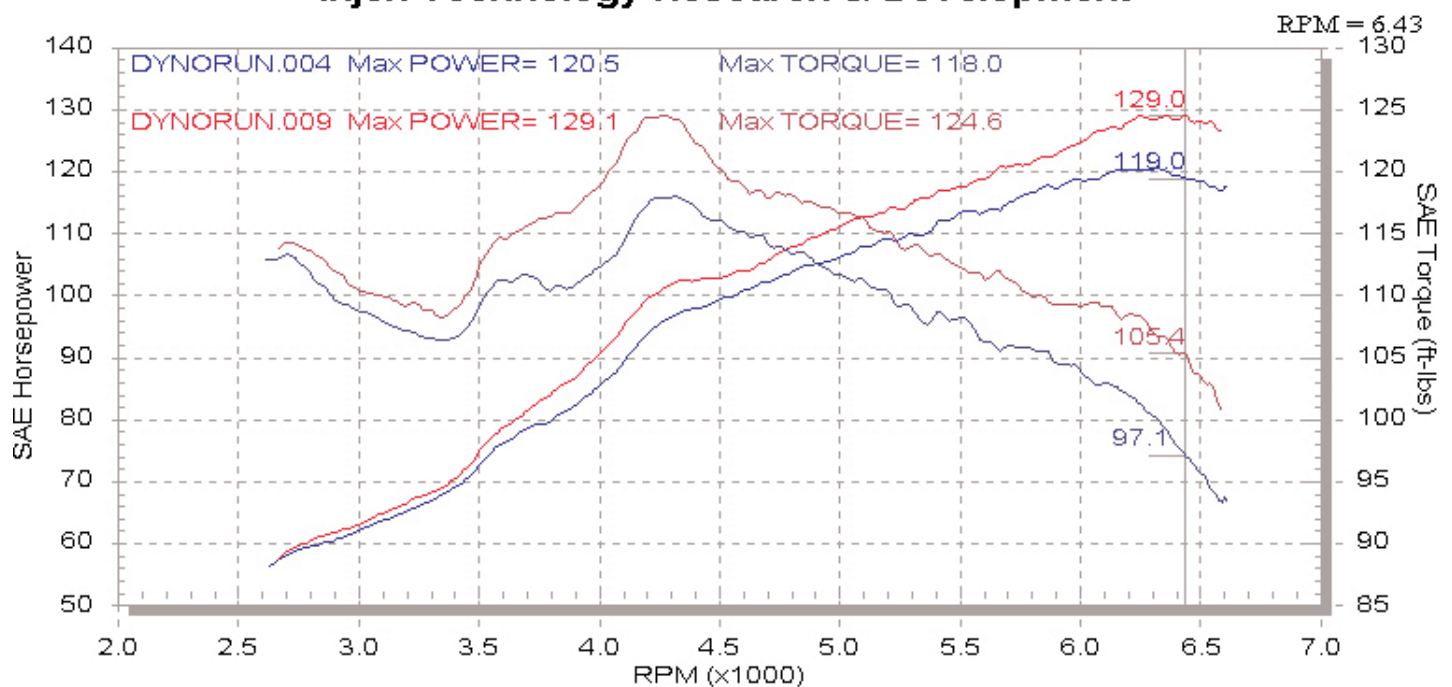

Figure 1
12. Align the entire intake for best fit. Once proper clearance has been made through-out the length of the intake continue to tighten all nuts, bolts and clamps. (See fig. 1)